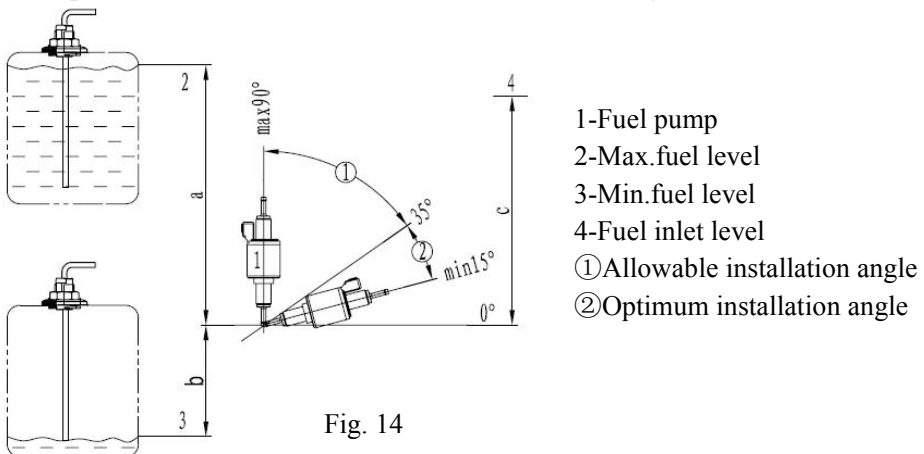

Fig. 14
4.5.1 The fuel pump shall be fixed in automobile with a fuel pump clamp with protective rubber cover. The outlet of the fuel pump shall tilt upwards. The tilt angle can be selected from the range of $15^{\circ} \sim 35^{\circ}$ (as shown in Fig. 14). When conditions permit, the fuel pipe between the fuel pump and the heater shall go up gradually.